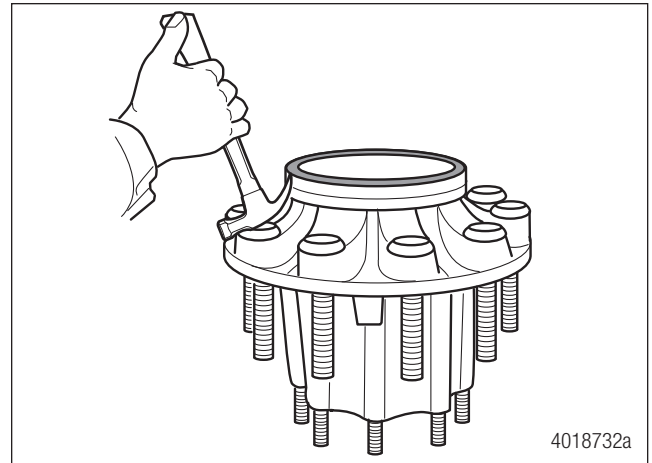

Figure 6.10
1. Use a small pry bar or hammer and chisel to remove the ABS tone ring from the hub. Use care with the tool to avoid bending and damaging both components. Use a circular pattern around the wheel to remove it from the hub. Figure 6.10.